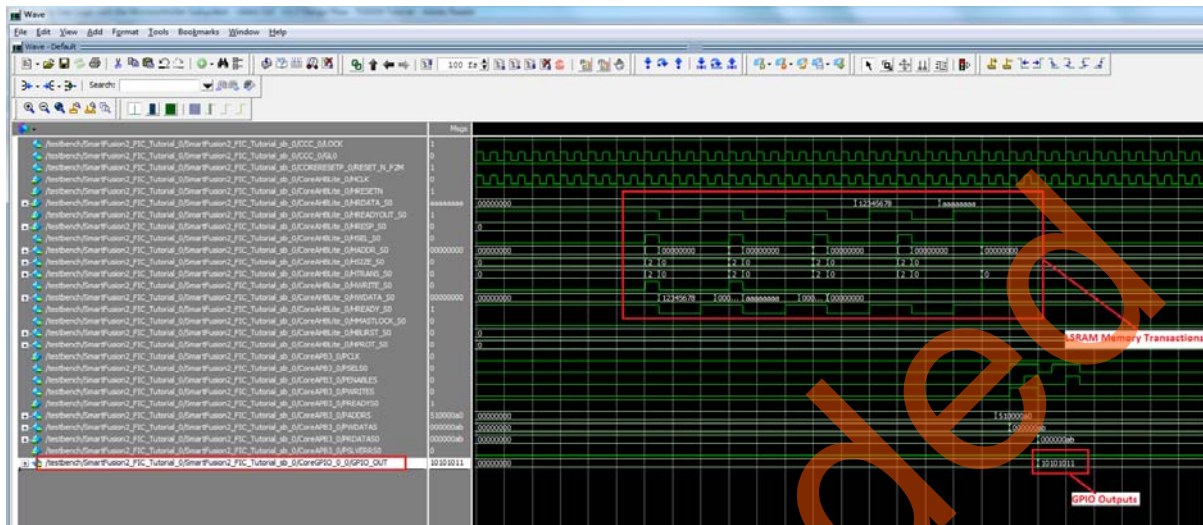

Figure 33 • Design Simulation Waveforms
9. After successful BFM simulation, observe the ModelSim waveform window for the read and write bus transactions to the fabric peripherals, as shown in Figure 33. Notice the result of GPIO configuration BFM commands in GPIO states.